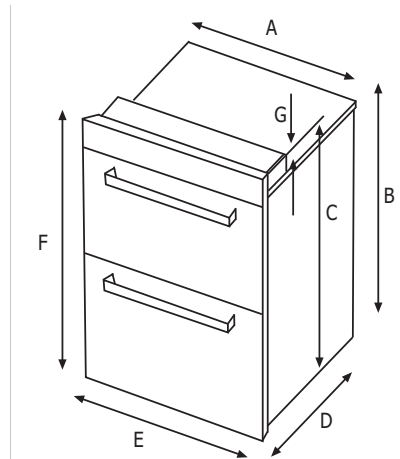

FIG 3
- If this appliance is to be installed near to a corner where the adjacent cabinets run at right angles forward of the appliance, there must be a gap of at least 90mm between the appliance and the cabinets, to prevent overheating of the cabinets (FIG 3).